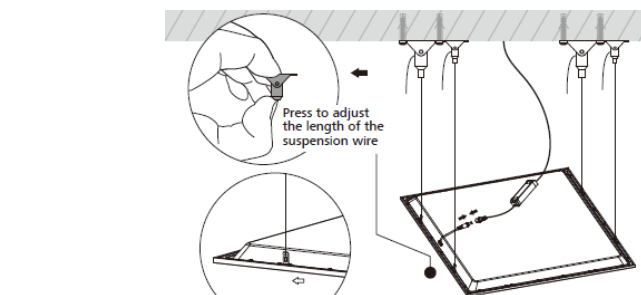

Fig. 3
- Add the 4 x brackets to the panel (see Fig. 3) and adjust the length of the steel wires